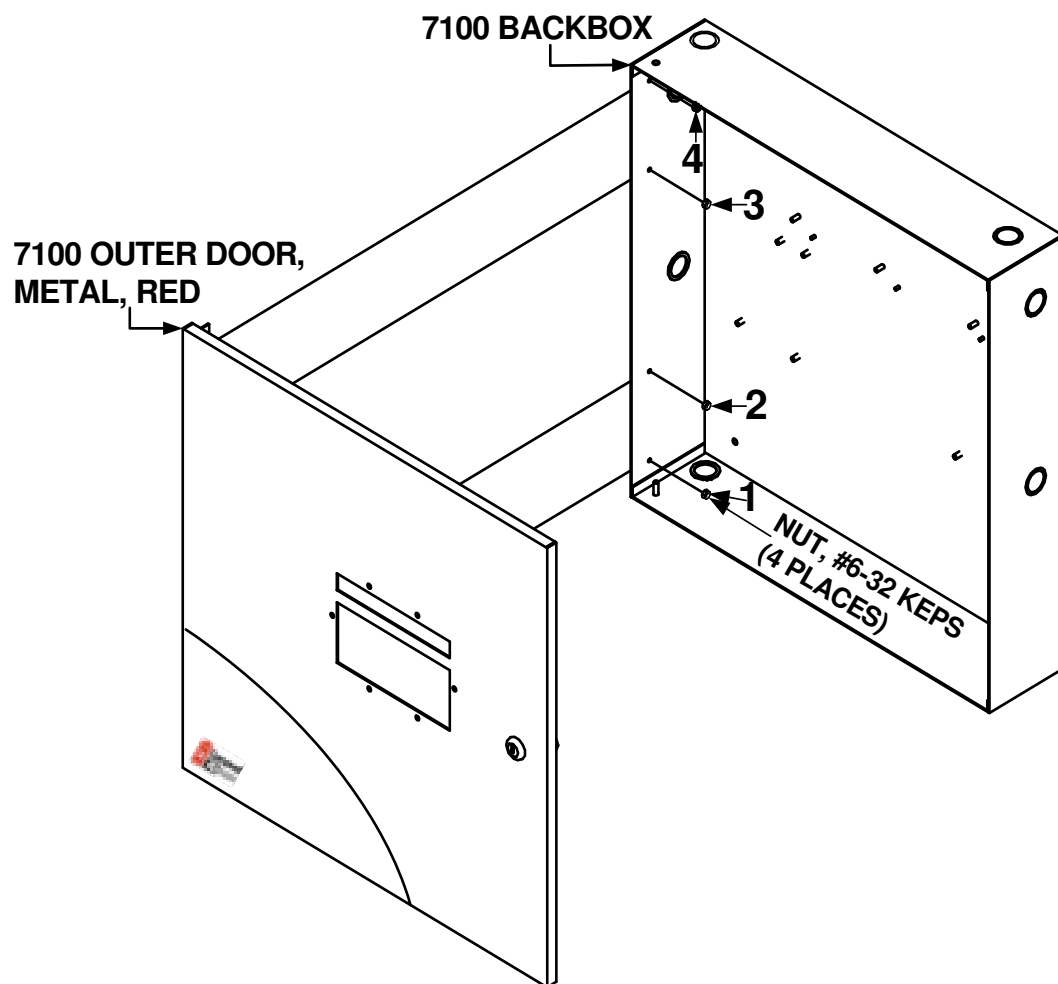

Figure 2.3.2.1 7100 Outer Door Installation
To mount the 7100 outer door to the backbox, secure four (4), #6-32 nuts in the four-hole mounting pattern on the left side of the backbox. See Locations 1, 2, 3, and 4 of Figure 2.3.2.1.